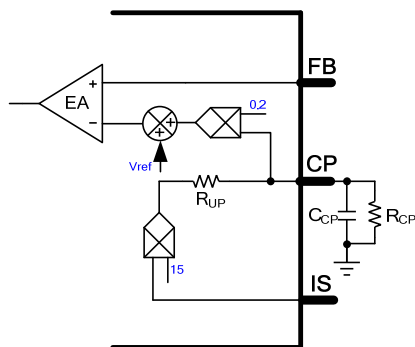

Figure 10: Cable Drop Compensation
As described in Figure 10, the CP voltage is proportional to the IS voltage. The IS voltage increases 15 times on CP. Then the voltage on CP is multiplied by 0.2 and is added to V_{REF} (typically 1V) to compare with V_{FB} . One 1μF ceramic capacitor is recommended on CP. The CP voltage can be adjusted by connecting a resistor to CP. Calculate the CP voltage with Equation (17):